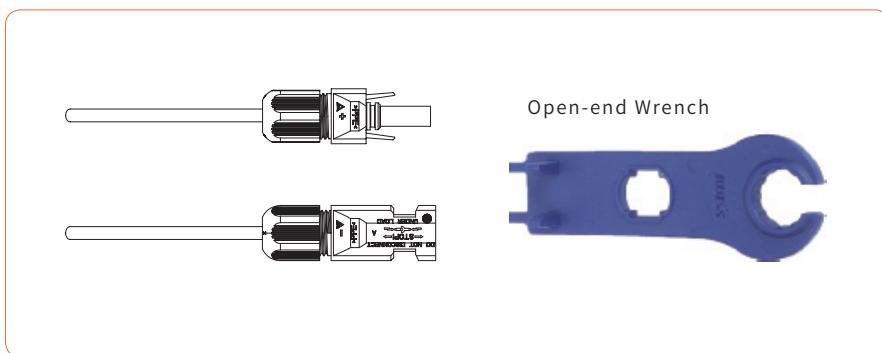

Figure 4-20
- ⑤ Insert the positive and negative cables into the corresponding positive and negative connectors, pull back the cable to ensure that the terminal is tightly attached in the connector.
- ⑥ Use an open-end wrench to screw the nut to the end to ensure that the terminal is well sealed, as shown in Figure 4-20: